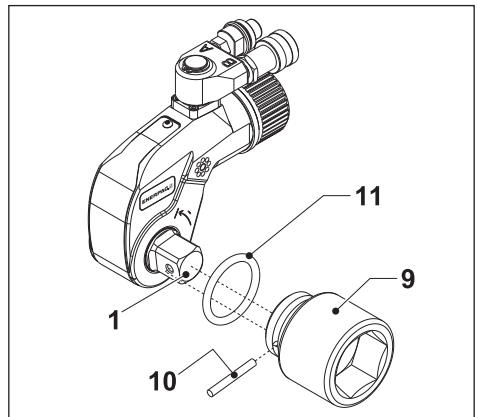
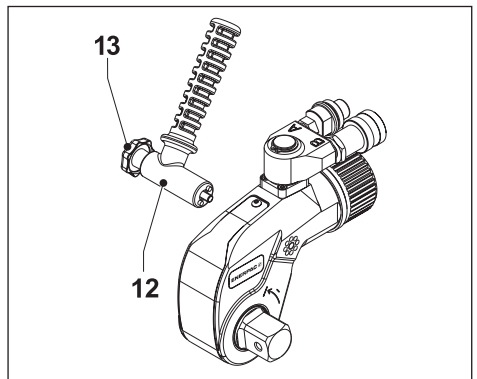
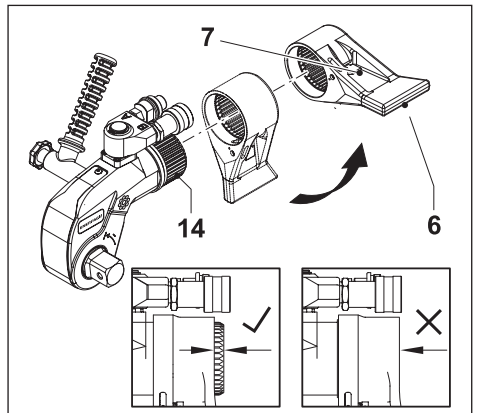

Fig. 4
Fig. 5
Fig. 6
- For tightening bolts, install the drive shaft in the location shown in Figure 4.
3.4.1 To Install a Hex Socket (Fig. 4)
- Position the hex socket (9) onto the drive shaft (1).
- Install the retaining pin (10) and O-ring (11).
3.4.2 To Remove a Hex Socket (Fig. 4)
- Remove the O-ring (11) and retaining pin (10)
- Remove the hex socket (9) from the drive shaft (1).
3.5 To Attach the Positioning Handle (Fig. 5)
- Secure the positioning handle (12) with thumb screw or eyebolt (13 - varies by model). Handle can be installed on either side of wrench (as needed).
3.6 To Mount the Reaction Arm (Fig. 6)